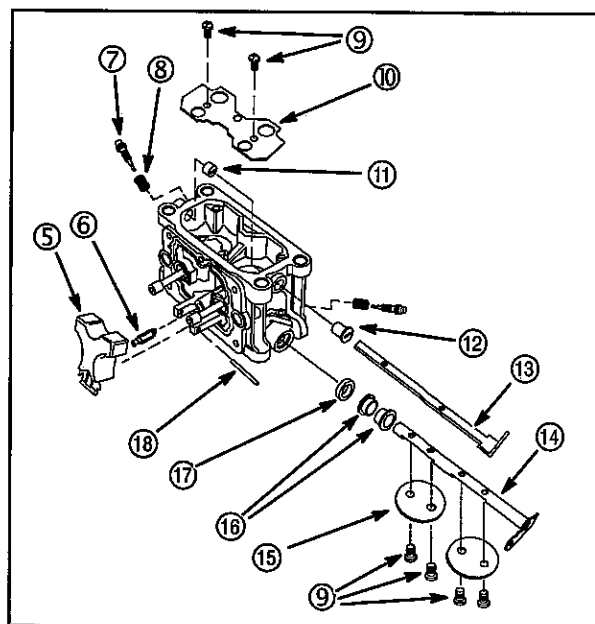

Fig. 132
4. Remove float hinge pin (18), float (5) and inlet needle (6) from carburetor body, **Fig. 132**.
5. Remove limiter caps (8) and mixture adjustment screws (7).
6. Remove screws (9) and choke plate (10).
7. Remove choke shaft (13) and bushings (11, 12) from carburetor body.
8. Mark throttle plates (15) before removal so they will be re-installed in the original position. Sides of throttle plate are beveled.
9. Remove screws (9), throttle plates and throttle shaft (14) with bushings (16) and seal (17). Discard seal.